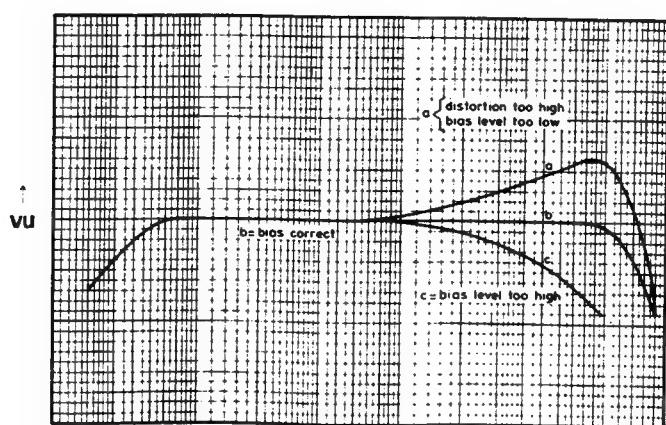

Fig. 2
- *d. When the channel is adjusted this may slightly affect the adjustment of the other channel. If the adjustment is correct the frequency response curve will be similar to curve b in figure 2 distortion below 3%.